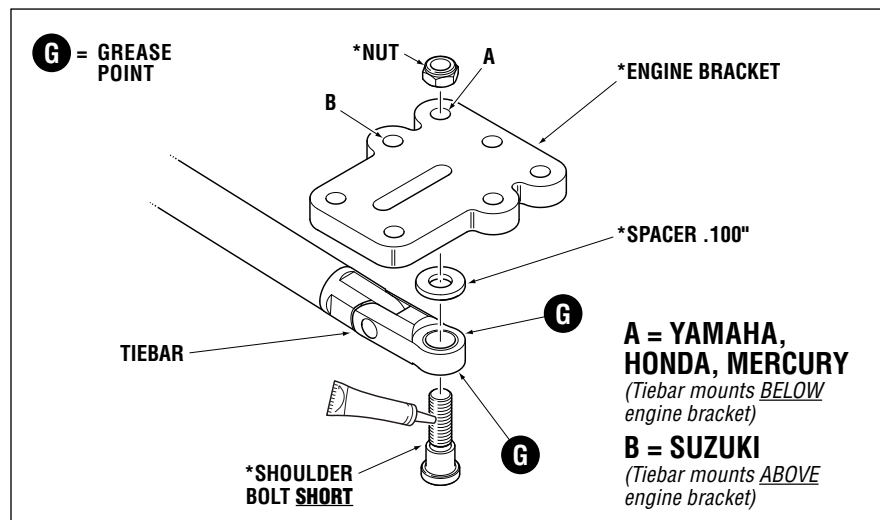

Figure 18.
1. **Note** installation hole as per your engine make (A or B) see figure 18.